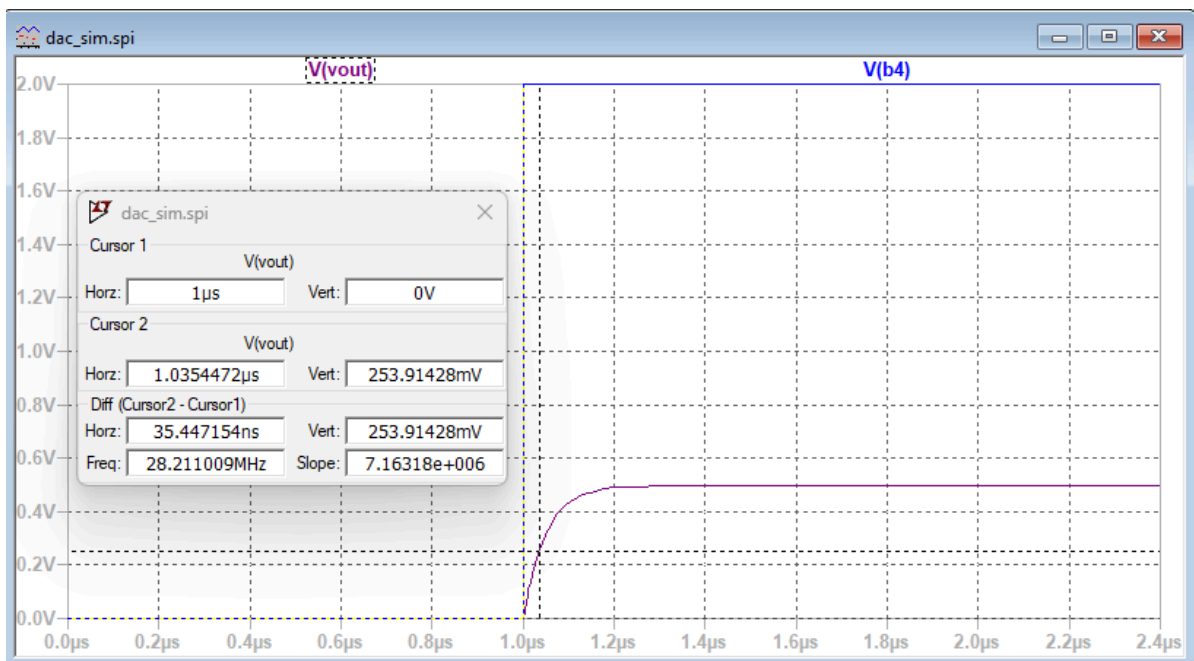

Figure 3.2: Simulation of 5-bit DAC
- Below is the schematic of the 5-bit DAC that will be connected to the padframe. I included some spice code to confirm 5-bit DAC functionality, as show in the simulation in figure 3.2.